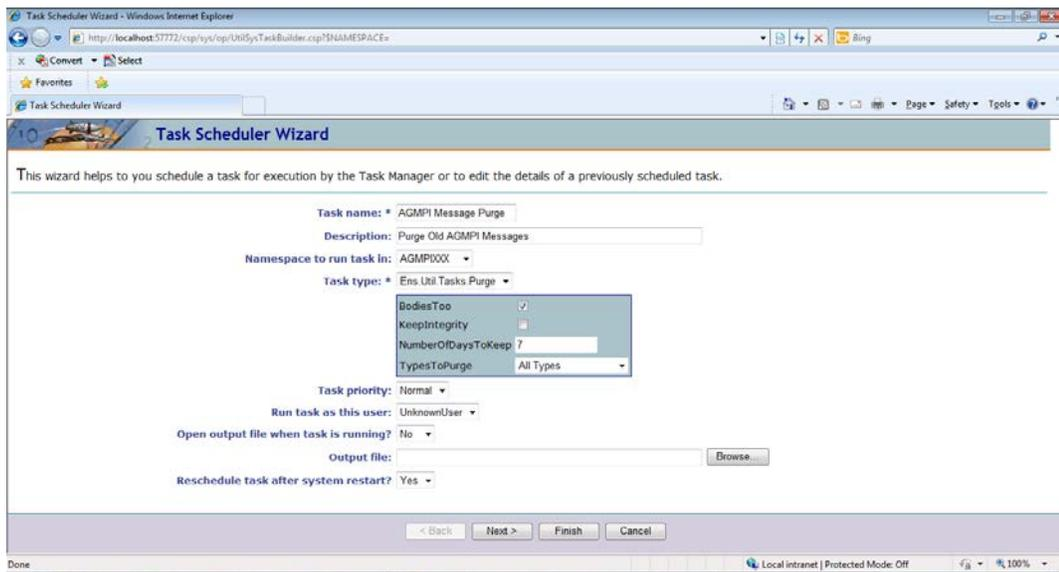

Figure 6-3: Task Scheduler Wizard page
- Click the **Schedule New Task** option to start the **Task Scheduler Wizard**, as shown in Figure 6-3.